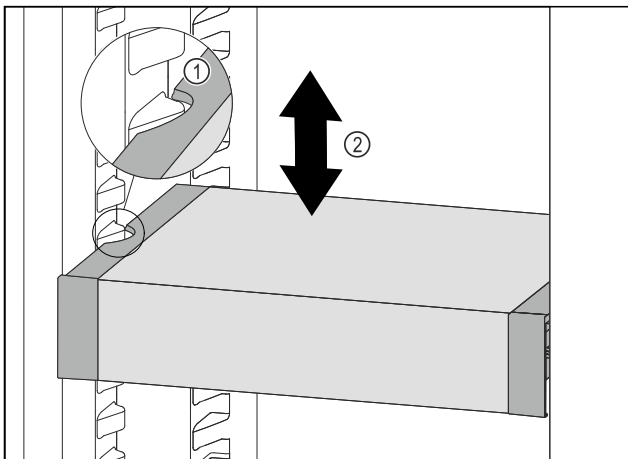

Fig. 94
- Pull VarioSafe forwards until the recesses in the side of the VarioSafe are at the level of the support rib in the refrigerator compartment. *Fig. 94 (1)*
- Move VarioSafe up or down in the refrigerator compartment until the desired height is reached. *Fig. 94 (2)*